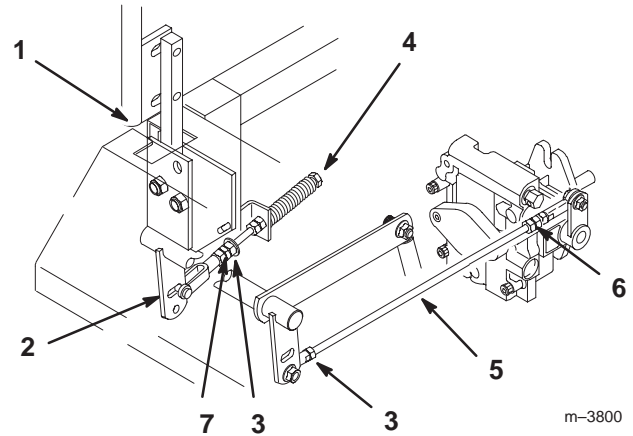

Figure 52
2. Begin with either the left or right motion control lever. Move lever to the neutral (but not locked) position and pull lever back until the clevis pin (on arm below pivot shaft) contacts the end of the slot (just beginning to put pressure on spring) (Fig. 52).
3. Check where lever is relative to notch in console (should be centered allowing lever to pivot outward to the neutral lock position) (Fig. 52).
4. Loosen locknut at ball joint on pump control rod (Fig. 52).
6. Adjust pump rod length by rotating double nuts on rod, in the appropriate direction, until wheel is still or slightly creeps in reverse (Fig. 52).